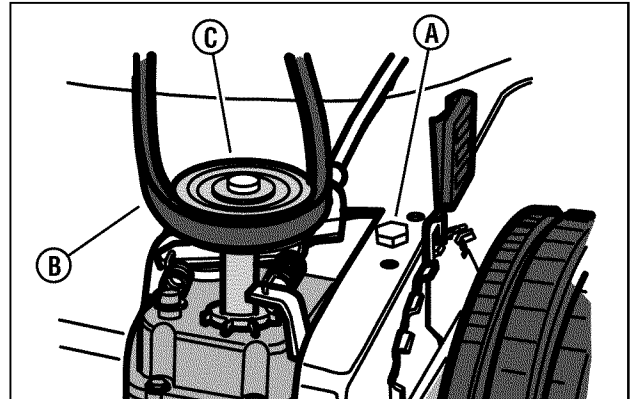

Figure 20: Loosening the belt tension bolt
3. (SP22675 & NSP22675 Only): Loosen the belt tension bolt (A, Figure 20).